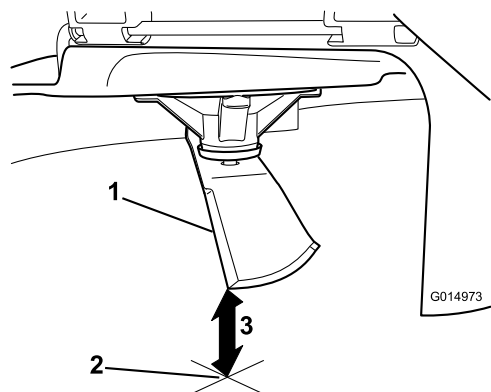

Figure 77
5. Measure from the tip of the blade to the flat surface (Figure 77).